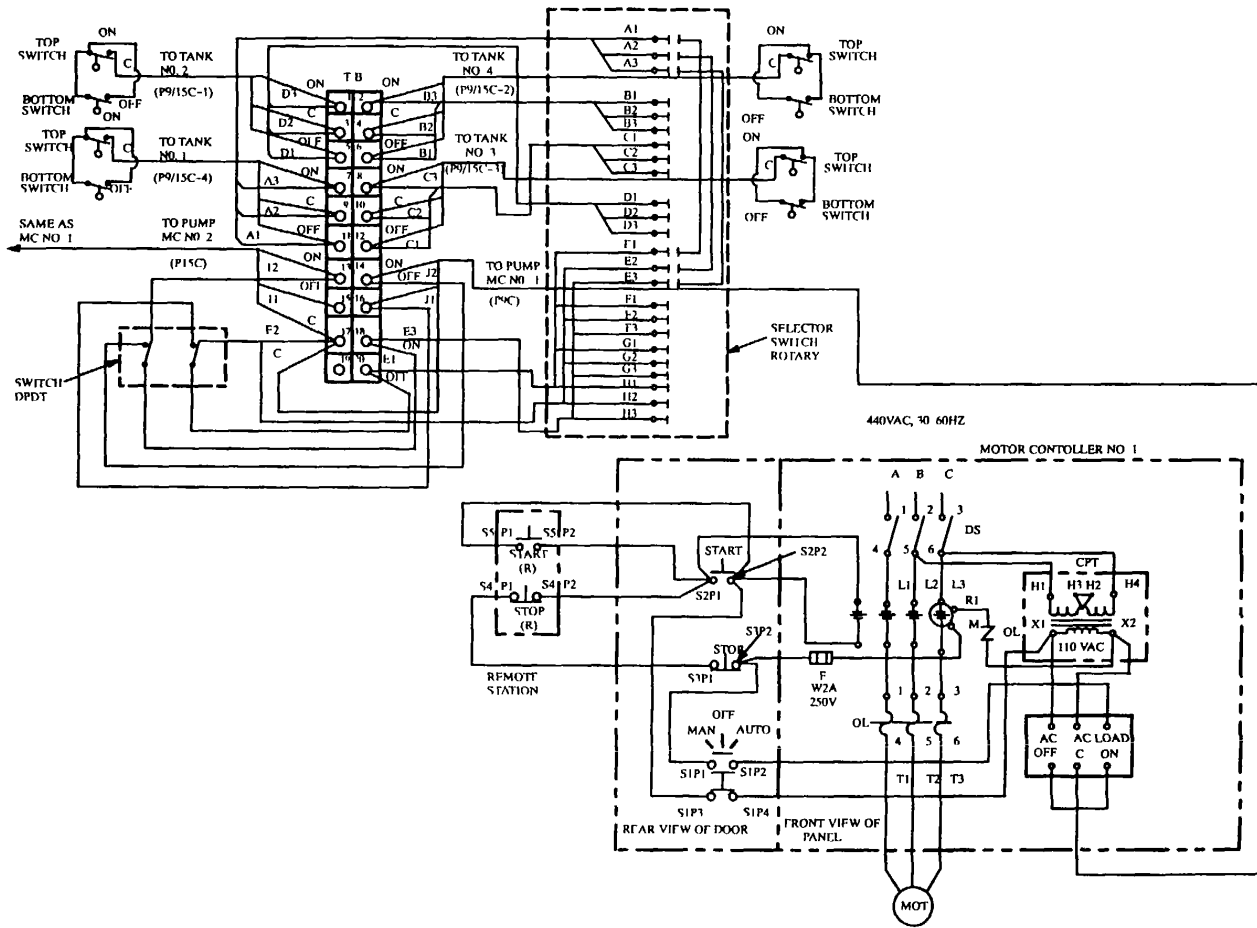

Figure 4-2. Drinking Water Discharge Pump No. 1 and No. 2 Motor Controllers, Tank Selector Switch, and Tank Top and Bottom Level Switches
- a. Check line voltage coming In across points DS1 and DS2, DS2 and DS3, and DS1 and DS3 (Figure 4-2) If voltage between any lines Is 0, power source Is at fault If reading Is 440 between all lines, go to step b
- b. Rotate MAN/OFF/AUTO switch(S1) in Figure 4-2 to AUTO position. Check voltage between terminals 14 and 15 on terminal board If voltage Is 0, check connections and replace faulty wires, if necessary If voltage Is indicated, check pump and storage tank selector switch and level switches as given In paragraph 4-7 2.17
- c. Check voltage on all terminal pairs going out across points OL4 and OL5, OL5 and OL6, and OL4 and OL6 If voltage readings on all three of the terminal pairs Is 0, check motor controller continuity using Figure 4-2 as given below If voltage readings across all terminal pairs Is 440, pump motor Is at fault and check motor as given In paragraph 4-7 2 1 3
- (1) After securing switchboard circuit breaker P9 for pump 1 or P15 for pump 2, open motor controller cover and clean by vacuuming or with electrician's brush.
- (2) Visually Inspect fuse, contacts, and connections for burns, looseness and corrosion Clean and tighten or replace damaged fuse, contacts, or connections Inspect wiring for breaks or other damage Replace winning If necessary.
- (3) Check relay continuity across points R 1 and X2, OL1 and OL4, OL2 and OL5, and OL3 and OL6 If open condition Is indicated, reset or replace relay. If closed condition exists, go to step (4)
- (4) Reapply power to motor controller and check transformer voltage across points XI and X2 If voltage reading Is 110, go to step 5 If voltage reading is not 110, check voltage between point H1 and H4 If voltage Is not 440, replace wires to transformer If voltage Is 440 and voltage across points XI and X2 was 0, replace transformer.
- (5) Turn off and secure power source to motor controller and check MAN/OFF/AUTO switch (S1) continuity across points S1 P1 and S1 P4 with switch In MAN position, and across points SI P2 and S1 P3 with switch In AUTO position If either check indicates an open circuit, replace switch If circuit closed, go to step (6) .